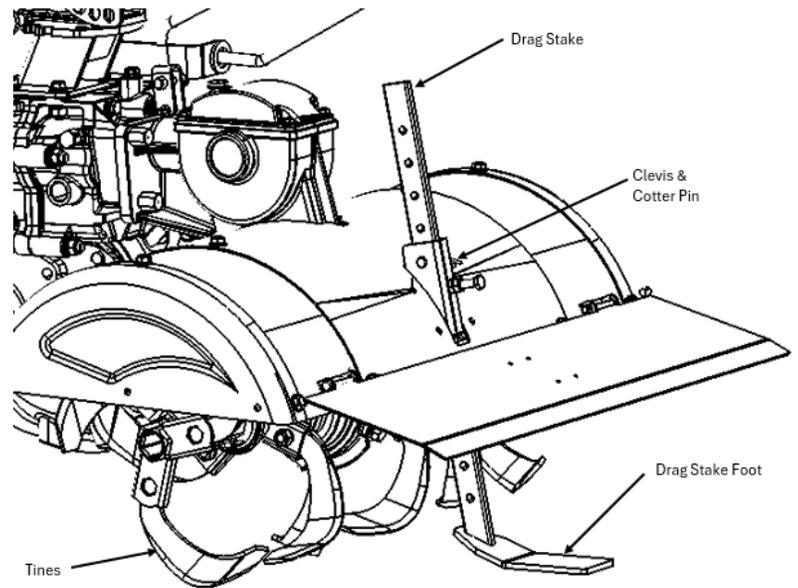

Figure 9
5. Install the Drag Stake in the orientation shown in **(Figure 9)**.